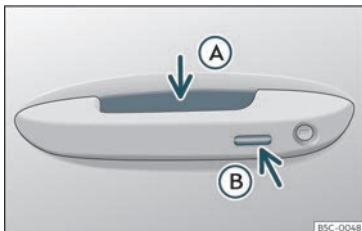

Fig. 77 Door handle: sensor surfaces
>>> Fig. 77
»» **Fig. 77 A** (arrow) of the handle and the vehicle unlocks.
»» **Fig. 77 B** (arrow) on one of the front door handles. The door that is used must be closed.
- Touch (*once*) the sensor surface»» **Fig. 77 B** (arrow) on one of the front door handles. The vehicle locks with the “Safe” security system»» page 100 . The door that is used must be closed.
- Touch (*twice*) the sensor surface»» **Fig. 77 B** (arrow) of one of the front door handles to lock the vehicle without activating the “Safelock” security system»» page 100 .
- Push the central locking button  on the remote control and touch the locking sensor surface of the driver door handle >>> **Fig. 77**  within the following 5 seconds. Do not grasp the door handle; otherwise the vehicle will not unlock. Deactivation is also possible if the vehicle is locked through the driver's door lock.
To close all the electric windows and the sunroof using the **comfort function**, keep a finger for a few seconds on the locking sensor surface >>> **Fig. 77**  (arrow) of the door handle until the windows and roof have closed.
The sensor surfaces on the door handles could engage if hit with a water jet or high pressure steam if there is a valid vehicle key in the proximity. If at least one of the electric windows is open and the sensor surface >>> **Fig. 77**  (arrow) on one of the handles is activated continuously, all windows will close.
- **OR:** touch the sensor surface on the outside of the door handle twice >>> Fig. 77 .